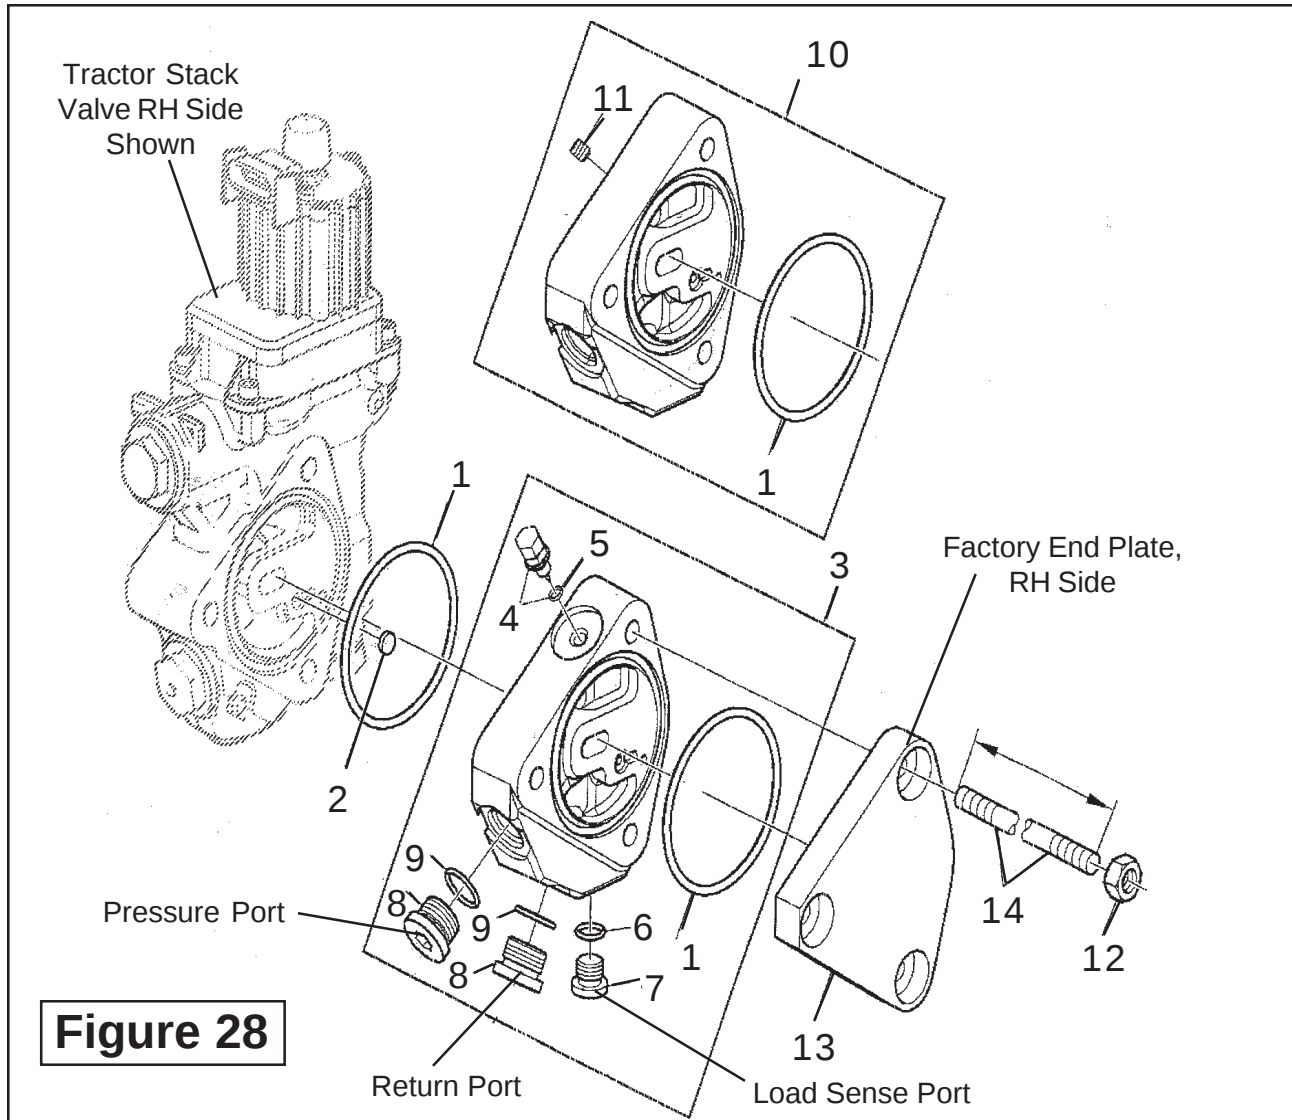

Figure 28
1. **Effective January 2004, John Deere implemented a new rear remote valve on all 6015 & 6020 series tractors (See Figure 28, 29 & 34).** The right side of the valve is significantly different and can be easily identified from its predecessor (See figure 30 or the previous pages). As a result, a new right hand power beyond end plate kit #02980927 is provided with each mount kit - effective April 2, 2004. For tractors produced before January below serial #398797, you will need to order the old left hand valve end plate kit #02980930 as a separate line item. ***Caution:*** The new valve end plate kit is set up for tractors equipped with either a one or two spool remote valve. Tractors equipped with three remotes (See Figure 31) or more will require longer end plate mounting studs - which must be purchased from John Deere at the dealer/customer's expense.
2. Identify the Pressure and Return Ports on the new Spacer Block of Stack Valve. These are located on the Stack valve spacer in the rear of the Tractor. The Pressure and Return Ports will have Plugs in them (**See Figure 28**). Remove the plugs and using an Allen Wrench remove the Allen Head Plugs one at a time (See Figure 28).